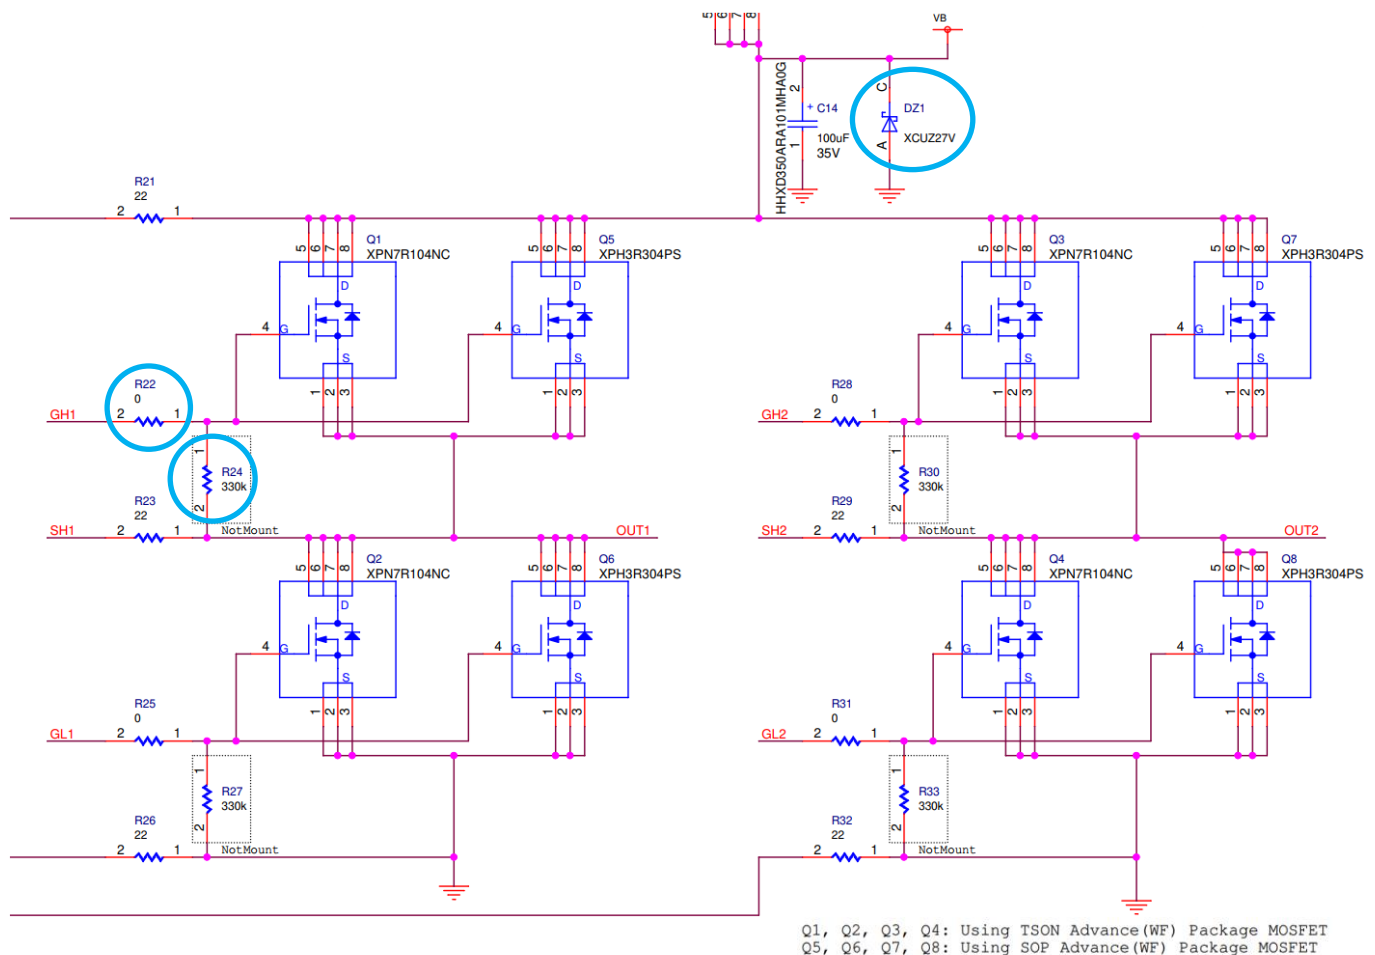

Fig. 4.4 Bridge Circuit for Driving Motor
In this design the power MOSFETs are used to drive the brushed DC motor. These MOSFETs are connected in a H-bridge configuration. The circuit of this design provides an option to use one of the two types of power MOSFETs. These MOSFETs are XPN7R104NC and XPH3R304PS which feature different current ratings and come in TSON Advance(WF) package and SOP Advance(WF) packages respectively. The MOSFET circuit is shown in Fig. 4.4. These MOSFETs are controlled by the gate driver TB9103FTG.